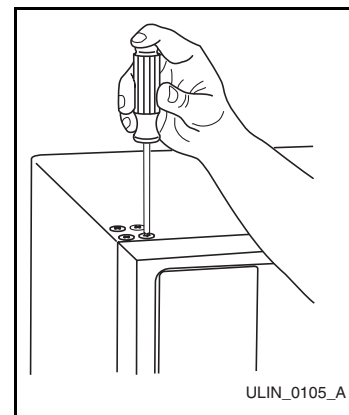

Figure 12
- Remove four plastic plugs (**Figure 12**) in hinge holes, top of cabinet, opposite side. Be careful not to scratch cabinet.